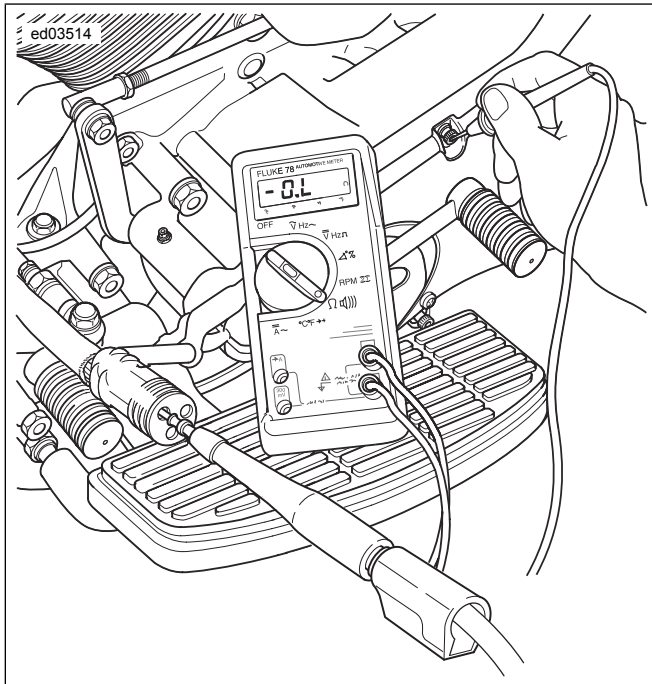

Figure 3-16. Test for Grounded Stator (Typical)
- See Figure 3-16. Using TEST CONNECTOR KIT (PART NUMBER: HD-41404), connect an ohmmeter.